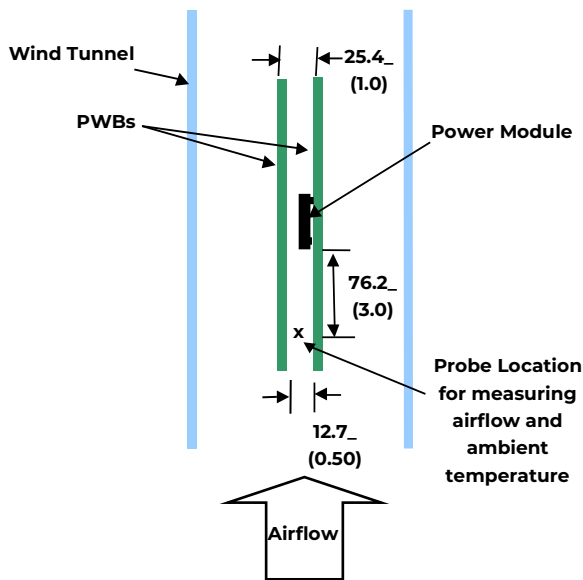
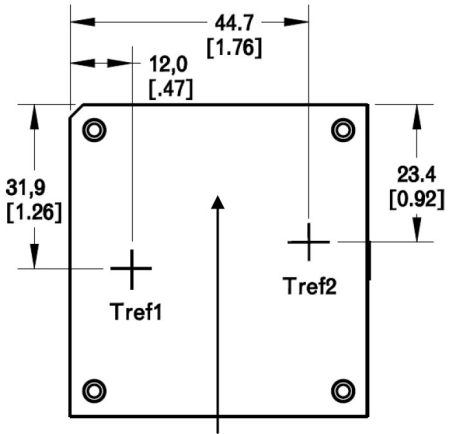

Figure 28. Thermal Test Set-up.
Figure 29. Location of hot-spots of the module (T_{ref1} and T_{ref2}).
Considerations include ambient temperature, airflow, module power dissipation, and the need for increased reliability. A reduction in the operating temperature of the module will result in an increase in reliability. The thermal data presented here is based on physical measurements taken in a wind tunnel. The test set-up is shown in Figure 28. The preferred airflow direction for the module is in Figure 29.
The thermal reference points, T_{ref1} and T_{ref2} used in the specifications are also shown in Figure 29. For reliable operation the temperatures at these points should not exceed 98°C. The output power of the module should not exceed the rated power of the module ($V_{o,set} \times I_{o,max}$).